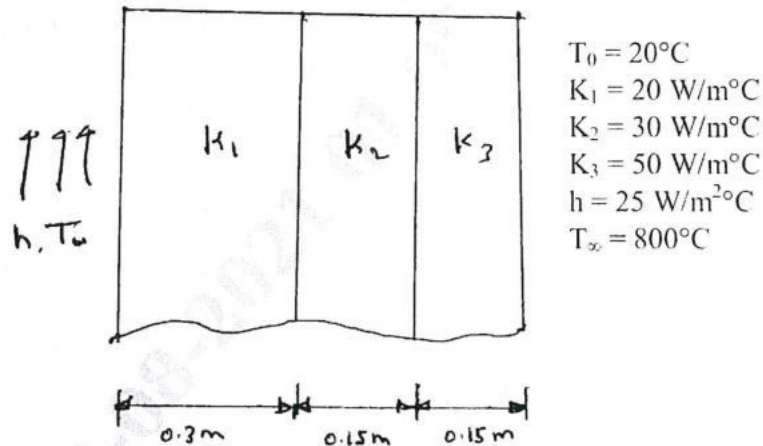

Fig.Q7(b)
b. A composite wall consists of three materials, as shown in Fig.Q7(b). The outer temperature is $T_0 = 20^\circ\text{C}$. Convection heat transfer takes place on the inner surface of the wall with $T_\infty = 800^\circ\text{C}$ and $h = 25 \text{ W/m}^2$. Determine temperature distribution in the wall.